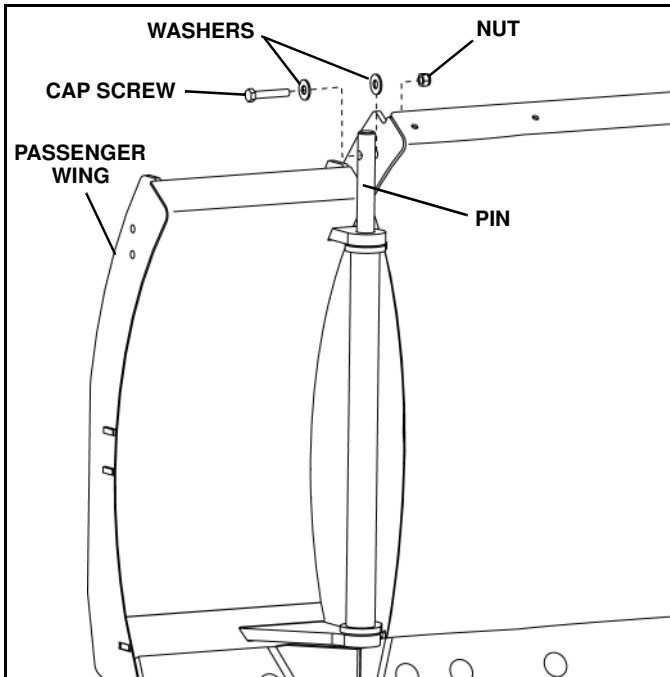

Figure 2-12
1. Align right wing with blade. Coat pin with grease and insert completely through blade and wing. Install a 5/16"-13 x 1-3/4" hex head cap screw and one 5/16" flat washer through the pin, a second 5/16" flat washer and the blade. Secure with a 5/16" locknut. Tighten the nut, but do not torque. (See Figure 2-12)